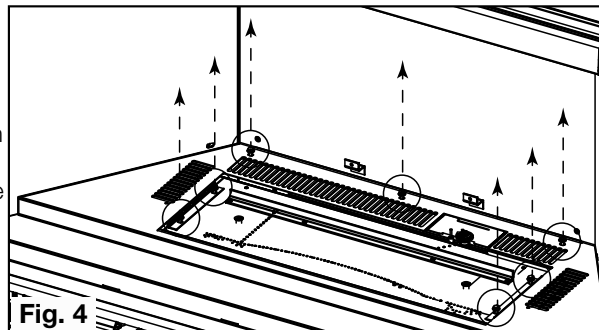

Fig. 4
- ☐ 5. Remove the 7 screws securing the media tray in place. Slide the media tray forward and out of the appliance. Set screws and media tray aside (**Fig. 4**). Ensure to carefully pass the night light housing through the hole in the media tray. Once the media tray is removed, the night light housing will dangle in the fireplace (not illustrated).